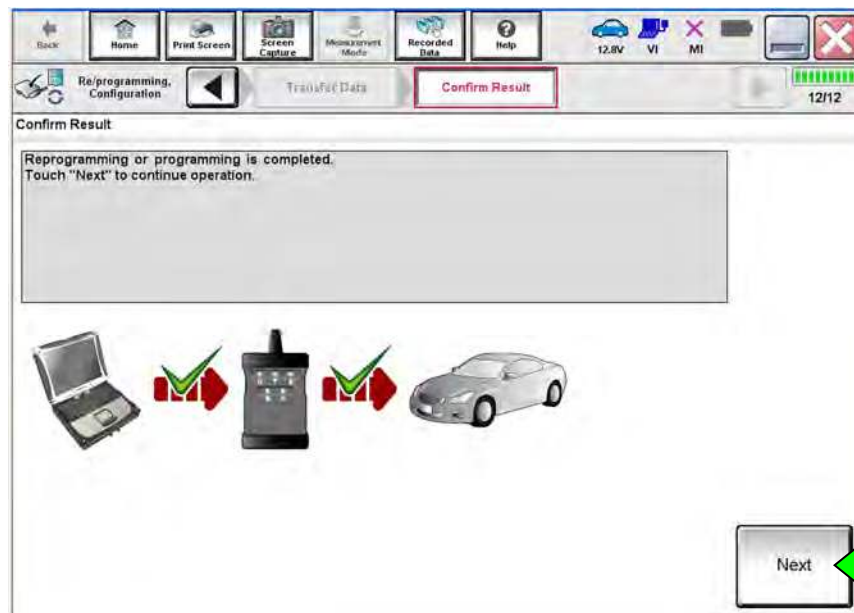

Figure 21
- When the screen in Figure 21 displays, the reprogramming is complete.
- If the screen in Figure 21 does not display (indicating that reprogramming did not complete), refer to Sonar Control Unit Recovery on the next page.